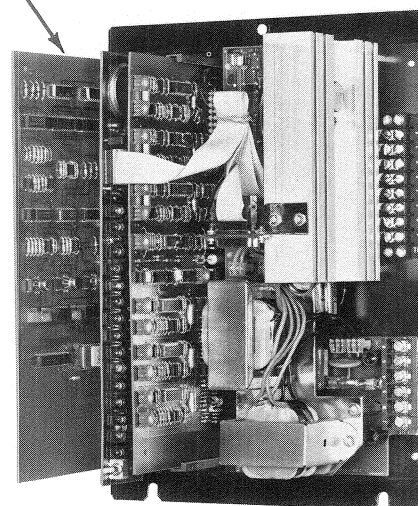

Figure 2. Instrumentation Board
1. Take the Instrumentation Board and locate with components facing to the right as shown in Figure 2.